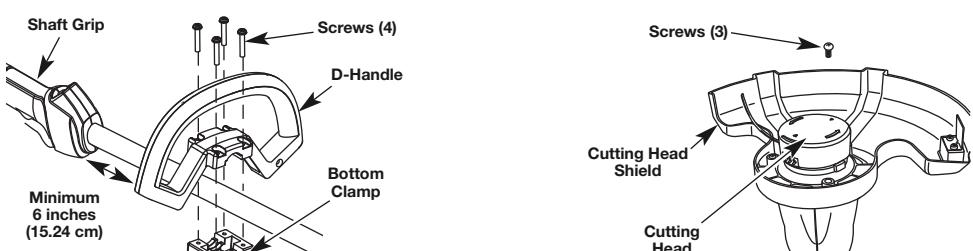

Fig. 6
- Turn the unit over so that the cutting head is facing up (Fig. 6).
4. Install and tighten the screws with a Phillips screwdriver (Fig. 6).